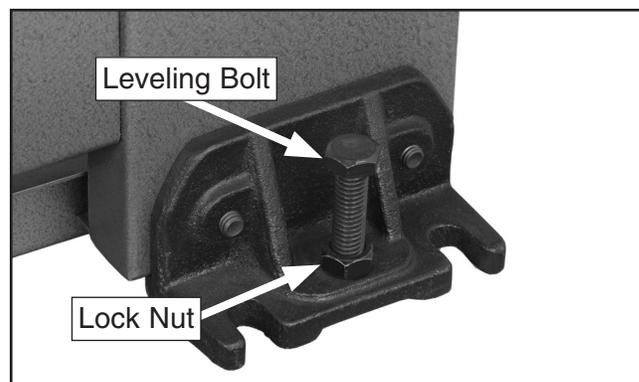

Figure 6. Leveling feet.
1. Loosen the lock nuts on all four corners, then adjust the leveling bolts until all four touch the floor (**Figure 6**).